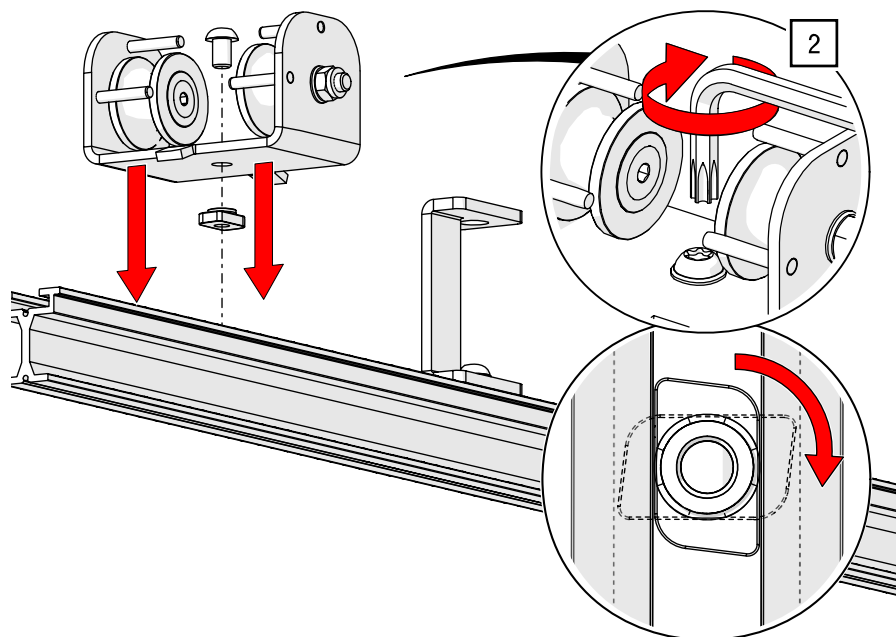

Fig. 105: Double top cord operation – Mounting the return pulley
2. Mount the return pulley at one end of the track and tighten the screws with the slot nut positioned in the track profile using a TORX®-key T40 and 27 Nm (see Fig. 105).